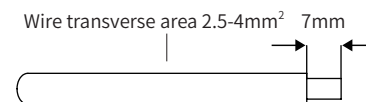

Figure 4-8
- 2) Strip off the DC cable insulation sleeve for 7 mm, as shown in Figure 4-8: